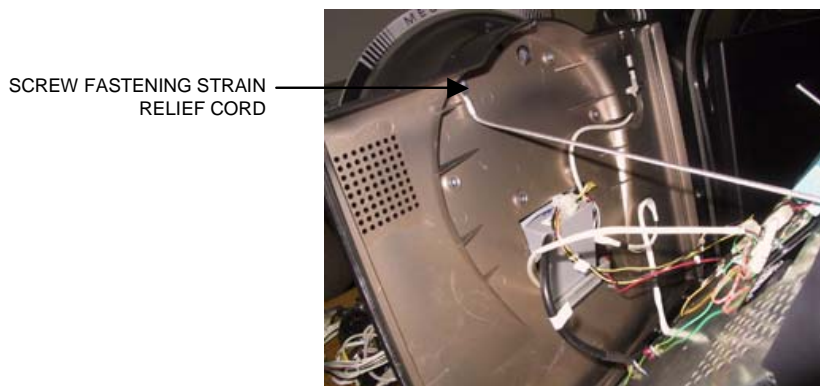

FIGURE 4 - HALFWAY-OPEN MONITOR ASSEMBLY
6. Open the monitor assembly halfway and remove the screw fastening the strain relief cord (see Figure 4). While doing this, please be careful to not put too much strain on the cables running from the rear bezel to the monitor. When the strain relief cord is disconnected, open the front bezel fully and rest it on a support. This may be easier to do if the 3 cables running from the rear bezel to the monitor are disconnected. To do so, carefully disconnect the cables where they connect to the monitor, noting their location and orientation.
4. Reconnect any monitor cables that you disconnected, then reattach the strain relief cord with the 1 screw you removed earlier (see Figure 4).